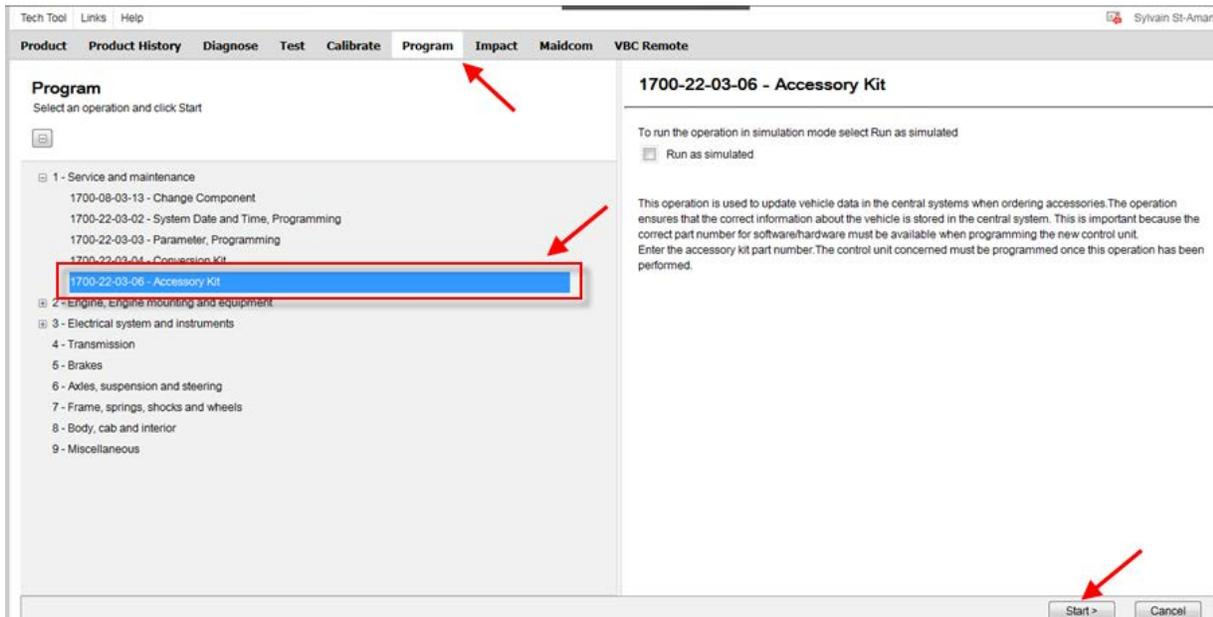

FIGURE 15
3. In Premium TechTool, select PROGRAM tab. In PROGRAM tab, select operation 1700-22-03-06 Accessory Kit then click START (FIGURE 15).